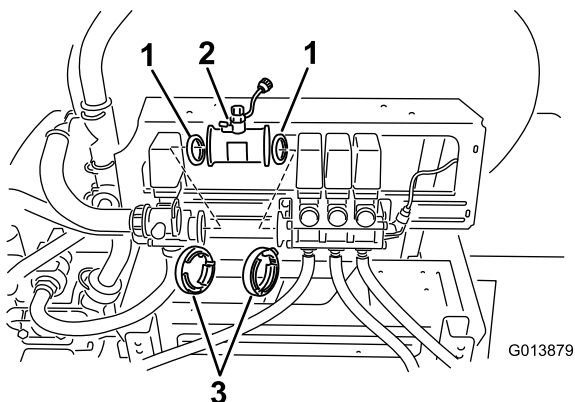

Figure 6
6. Install the flowmeter in-line between the agitation and boom valve assemblies with the flow arrow pointing toward the 3 boom valves (Figure 6).
- A. Install the existing gasket into the flowmeter side that will mate with the agitation valve (Figure 6).